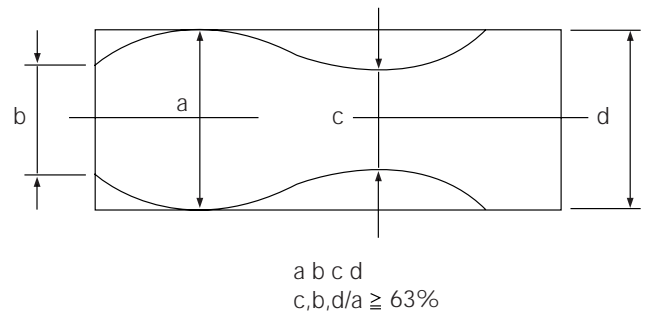

Fig. 4-5-7 Envelope Waveform Adjustment
3. Make sure the video envelope waveform (at its minimum) meets the specification shown in Fig. 4-5-7.